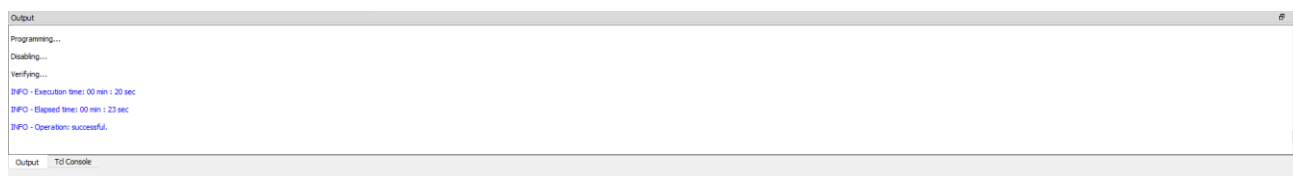

Figure 8.4. Output Console
8. After successful programming, the **Output** console displays the results as shown in Figure 8.4.